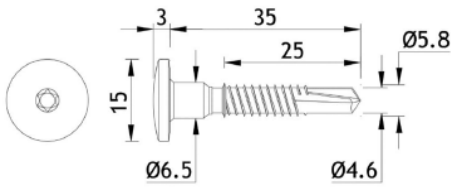

Figure 2 - Equitone UNI metal screw
- EQUITONE stainless UNI screw 5,5xL K15 (see Figure 2) into timber battens